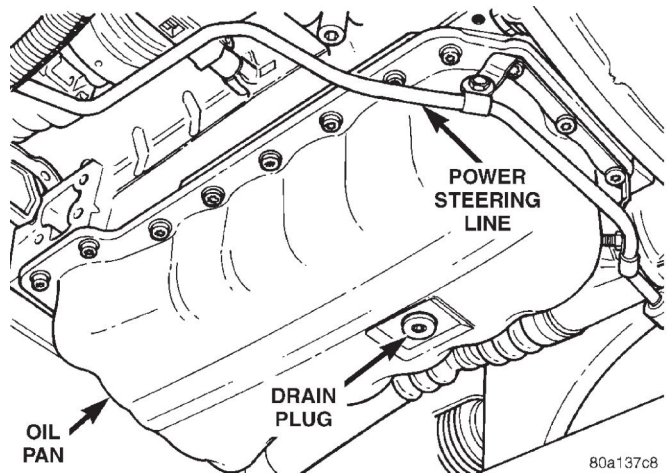

Fig. 59 Oil Pan
- (1) Disconnect battery cable.
- (2) Raise vehicle on hoist.
- (3) Drain oil.
- (4) Remove oil pan bolts (Fig. 59).
- (5) Remove oil pan.